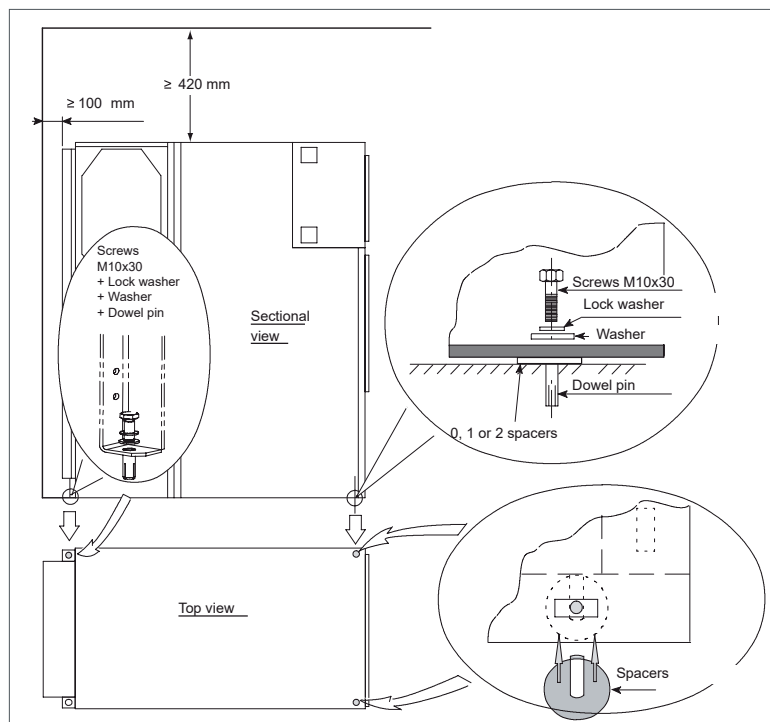

Figure 47
4. Screw-fasten panel to the two fastening points on the front end and at least one fixation point on the rear end (Figure 47); hex. bolt M 10 x 30 + dowel pin.